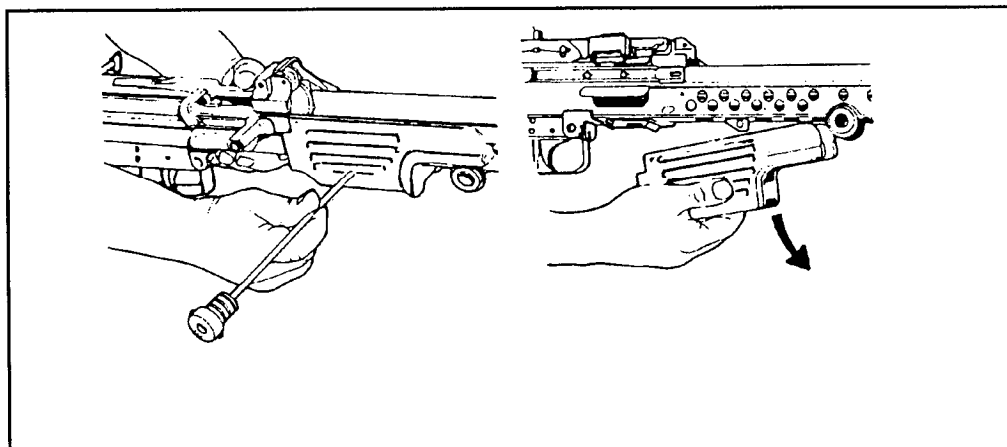

Figure 2-8. Removing the handguard.
c. **Removing the Handguard Group (Figure 2-8).** The handguard group consists of the handguard, handguard retaining pin, and cleaning equipment retaining clip. Push the handguard retaining pin to the left using a cartridge or the spring guide rod; then pull the handguard down.
e. **Replacing the Handguard Group.** To replace the handguard, place it on the receiver from the bottom and push it to the rear until it stops. Using the guide rod, push the handguard retaining pin to the right, which locks the handguard into position. Push the handguard down to make sure it is locked. (See Figure 2-8, page 2-9.)